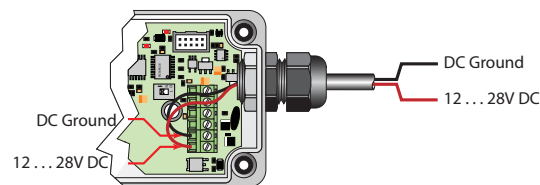

Figure 1: Power connections
2. With the power from the DC power source disabled or disconnected, connect the positive supply wire and ground to the appropriate field wiring terminals in the flow meter. See *Figure 1*. A wiring diagram decal is on the inside cover of the flow meter enclosure.